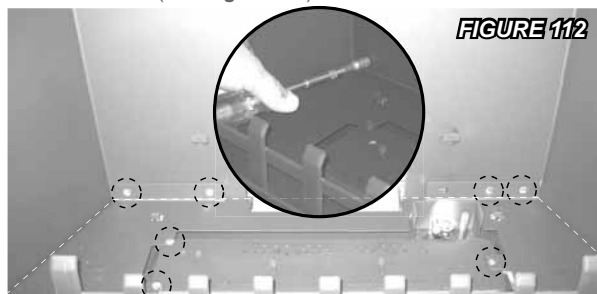

FIGURE 112
4. Remove the 7 screws illustrated in Fig. 112 and lift out the log support.
5. Remove the 8 perimeter screws as illustrated in Fig. 112 and lift out the burner base. (The gas line flex-connector should provide sufficient movement to permit shifting the burner assembly to the side).